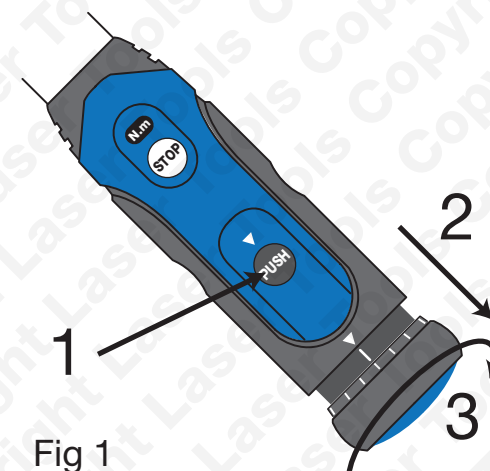

Fig 1
- When finished using the instrument, wind back the adjustment ferrule until the legend STOP appears in the in the adjustment indicator sight window (refer to Figure 1). Take care not to turn the adjuster lower than the STOP setting or the mechanism may be damaged.
Refer to Figure 1:
1. Push ferrule release button (D).
2. Pull back adjustment ferrule (E).
3. Turn adjustment ferrule clockwise to increase (anticlockwise to decrease) the torque setting which is displayed in the adjustment indicator sight window (C).
5. When finished using the instrument, wind back the adjustment ferrule until the legend STOP appears in the adjustment indicator sight window (refer to Figure 1). Then replace instrument in case.